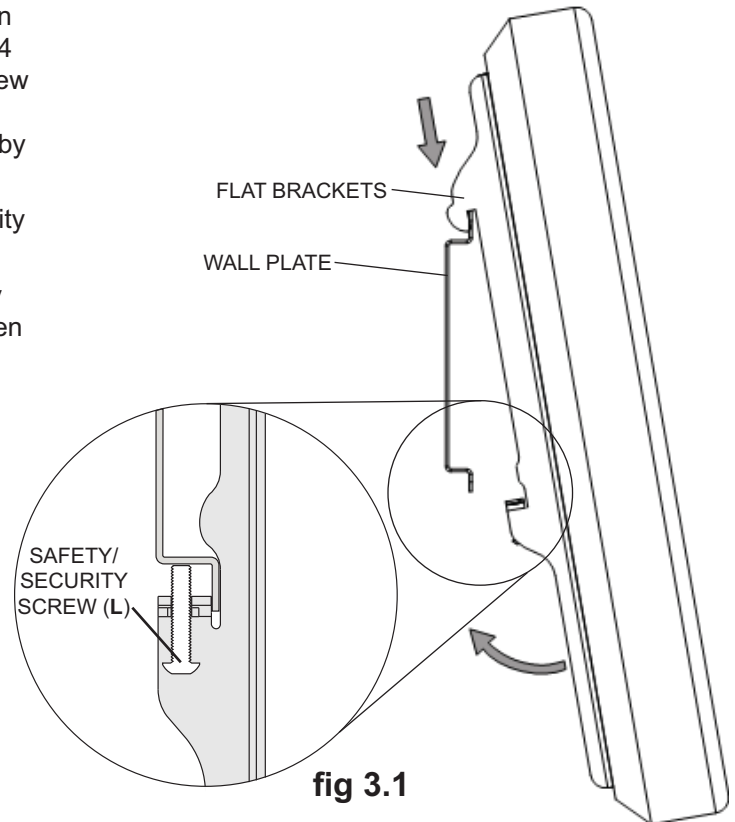

fig 3.1
3 Hook flat brackets onto wall plate (not included). Then slowly swing screen in as shown in figure 3.1. Using 4 mm security allen wrench (**P**) turn clockwise until screw fits firmly against wall plate to prevent screen from being removed. Screen can be adjusted horizontally by loosening M5 x 25 mm screw (**L**) on flat brackets.
- 3** To attach screen to arm (not included), insert the puck of adapter plate into the tilt bracket slot as shown in figure 3.1. Attach brake pad assembly as shown in Detail 3 so that the brake pad is snug against the adapter plate. Adjust roll position of adapter plate to level screen then lock puck in place by tightening M5 x 25 mm screw (L) on the underside of tilt bracket using 4 mm allen wrench (P). Tighten all (M5 x 20 mm, M5 x 25 mm) screws.
- NOTE:** To remove screen from arm, remove two M5 x 20 mm screws (O) and brake pad. Lift screen out of tilt bracket.